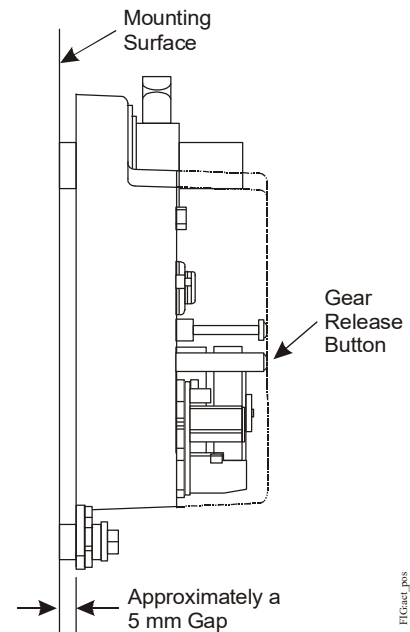

Figure 5: Positioning the actuator
- Be certain that the actuator is in the desired mounting position parallel to the mounting surface, as illustrated in Figure 5.